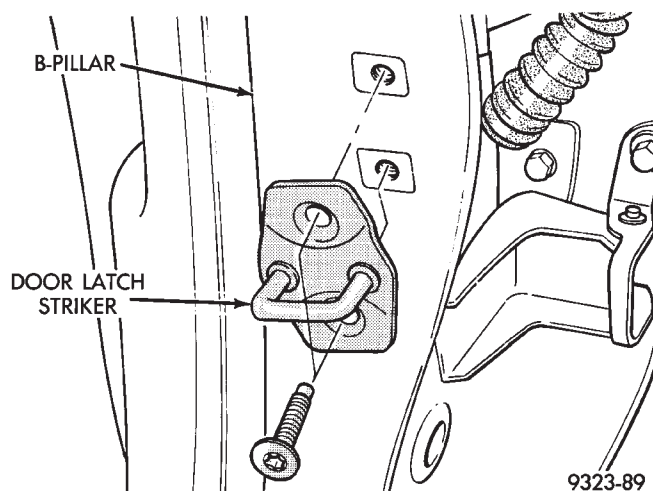

Fig. 26 Front Door Latch Striker
- (3) Remove bolts holding striker to B-pillar (Fig. 26).
- (4) Separate door latch striker from vehicle.